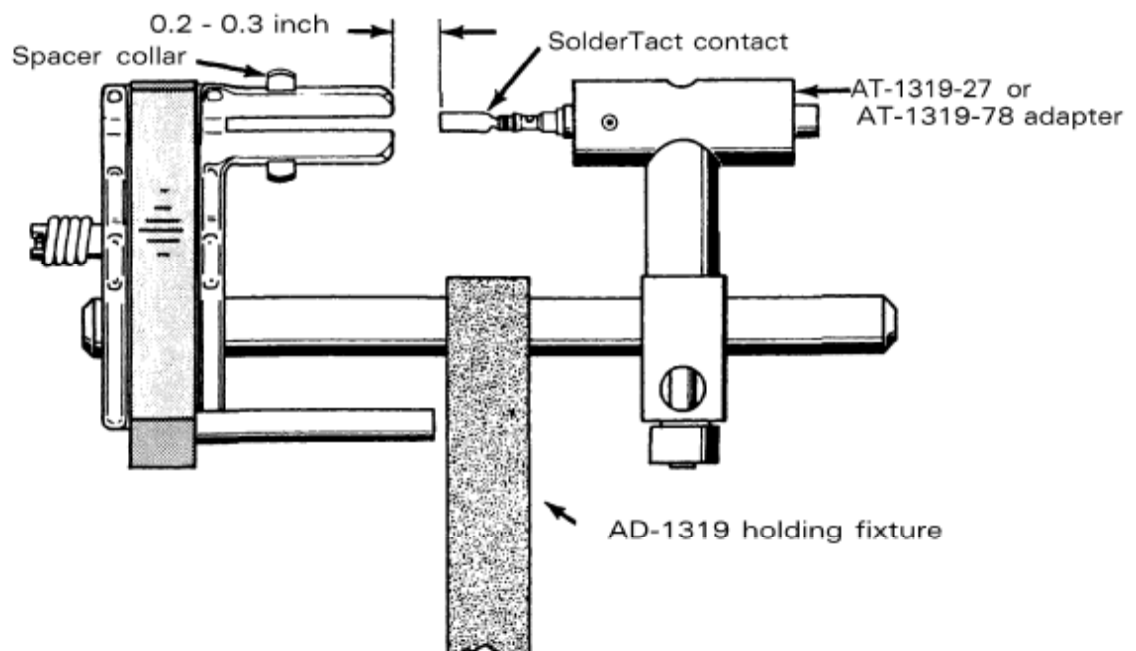

Figure 6-1. Setup Dimensions for AD-1319 Holding Fixture
1. Install the appropriate adapter (from Section 6.1) onto the AD-1319 holding fixture (See Figure 6-1).
2. Insert a contact in the adapter and set up the dimensions as shown in Figure 6-1.